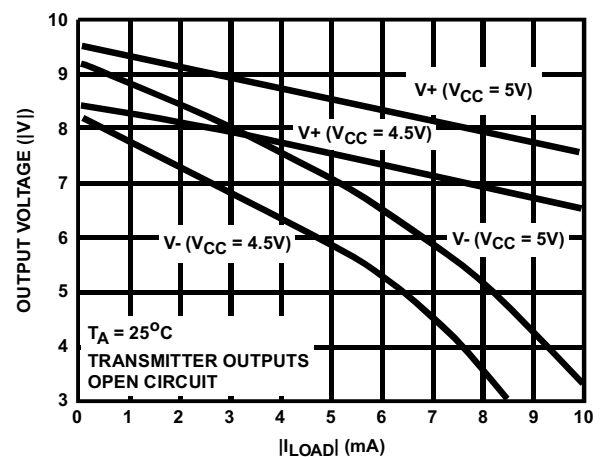

FIGURE 4. V+, V- OUTPUT VOLTAGES vs LOAD CURRENT
2. See Figure 4 for definition.